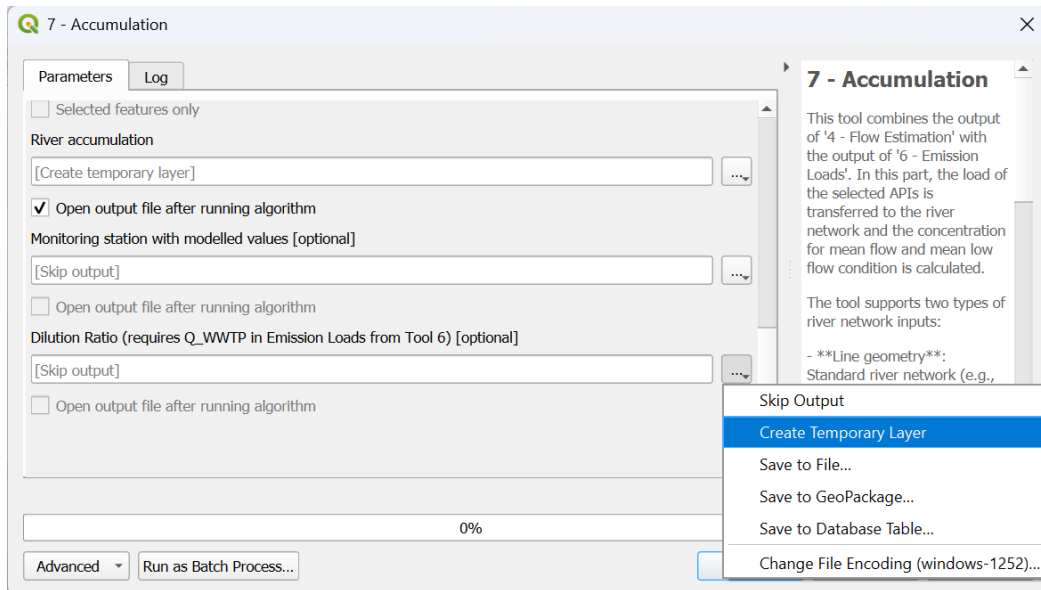

Figure 10. Configuration of the Accumulation tool (Part B)
6. Click on the three dots in the *Dilution Ratio* output and select “Create Temporary Layer” (Fig. 10)